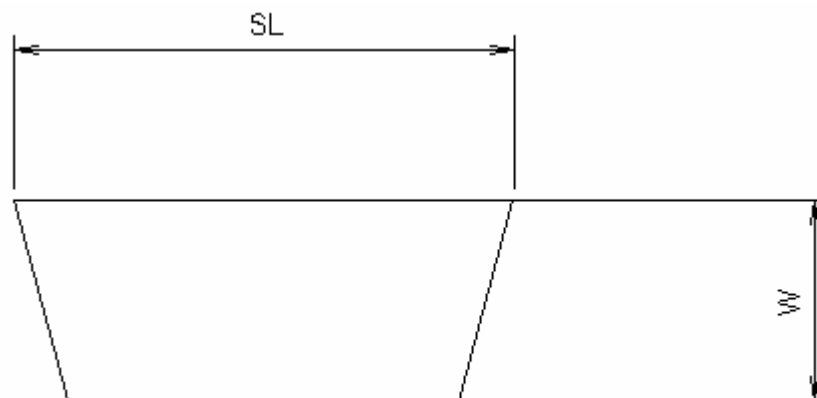

Figure 2. The segment is a trapezoid with the length SL and width W. The angle of the sides is determined by the number of segments in a ring.
8. Decide how many segments to use for each ring. Keep in mind the design requirements. If you want to keep the cut lines aligned in a certain way, the number of segments must be equal or an even multiple of each other. Once the decision is made on number of segments (N), then the cut angles can be calculated (Ca).
- Figure 2 shows a typical segment top view. A segment is just a trapezoidal piece of wood.